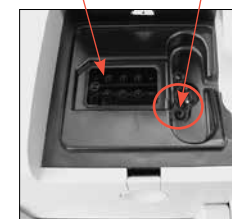

Figure 3: Inside the sample measurement chamber
1. Open the sample measurement chamber (SMC) cover. Remove the black gas I/O port seal (Figure 3) by grasping it with a hemostat or tweezers and firmly pulling upward. Discard the gas I/O port seal.